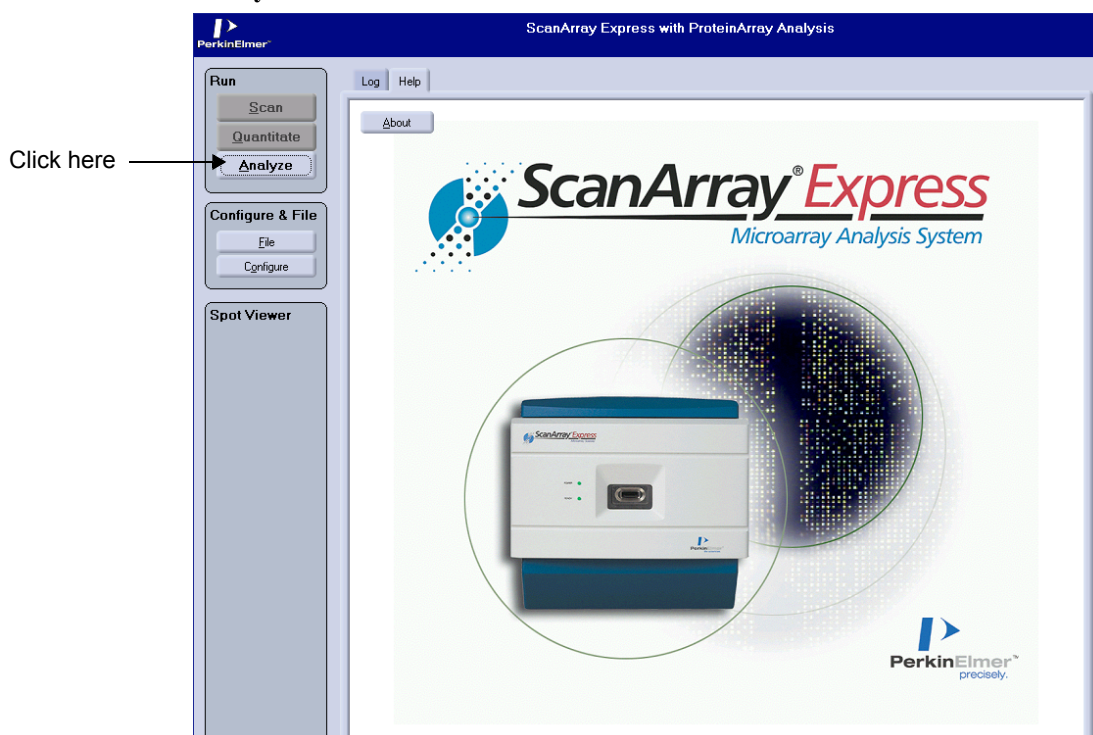

Figure 2-1 The ScanArray Express Main Window
2. The ScanArray Express opens to the *Main Window*, shown in Figure 2-1. Click **Analyze**.